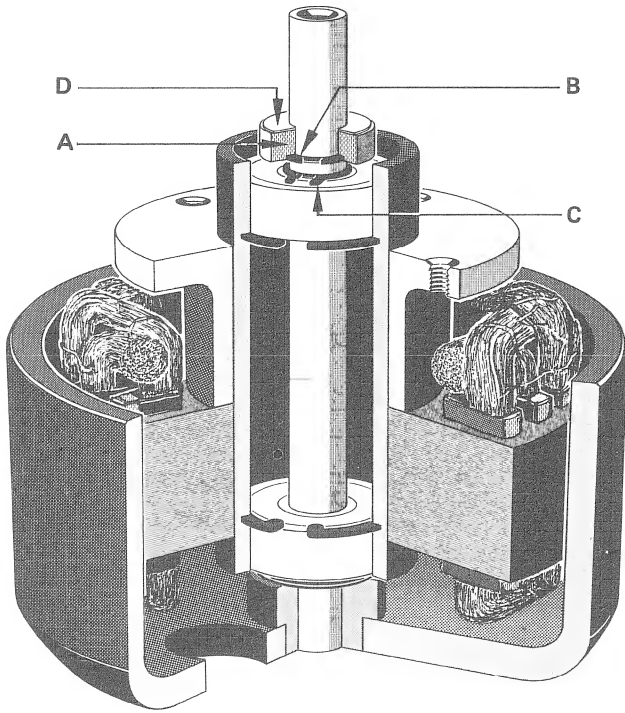

Fig. 4.5–27
4.5. Capstan Motor (with Ball Bearing) Fig. 4.5.-26
All bearings are lubricated for their life and should normally require no service. They shall be exchanged only with original bearings, in case of malfunction. If the capstan axis is exchanged, the upper felt washer of sintered bearing D (fig. 4.5 –26) is to be lubricated with some drops MOBIL DTE extra heavy.